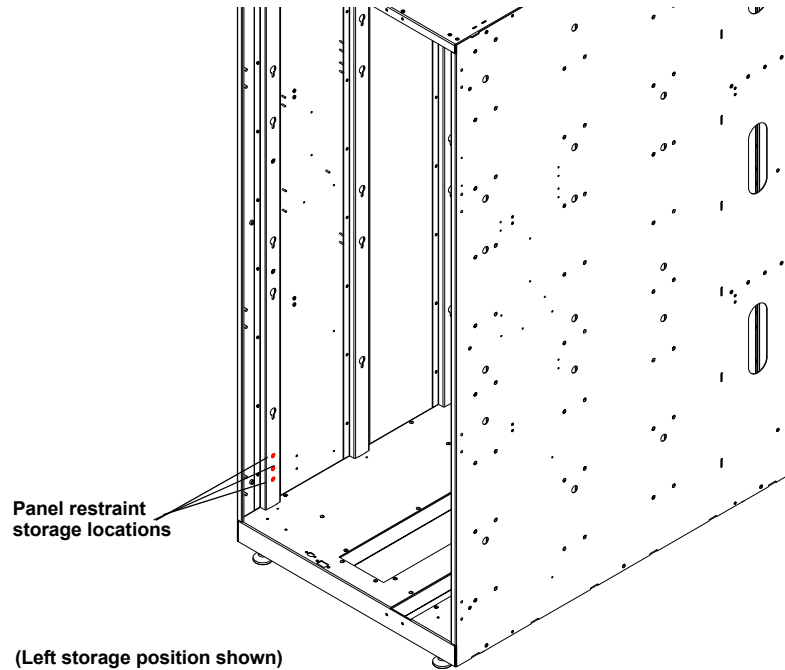

Figure 35: Retrieving the panel shipping restraints
1. Remove the six panel shipping restraints (three sets on each side) from their storage location on the lower cabinet frame (see Figure 35).